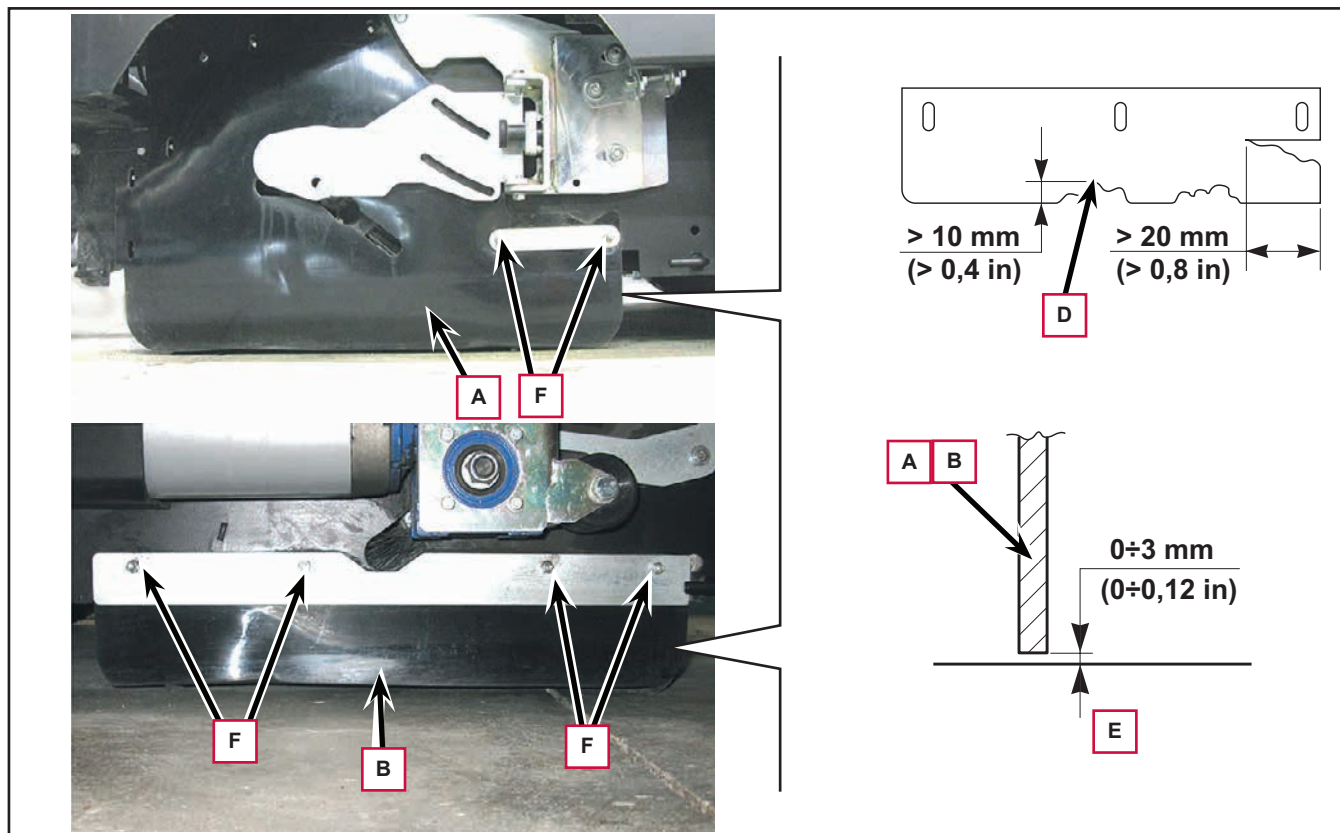

Figure 6
6. Check the condition of the side skirts (A, Fig. 6) and (B).